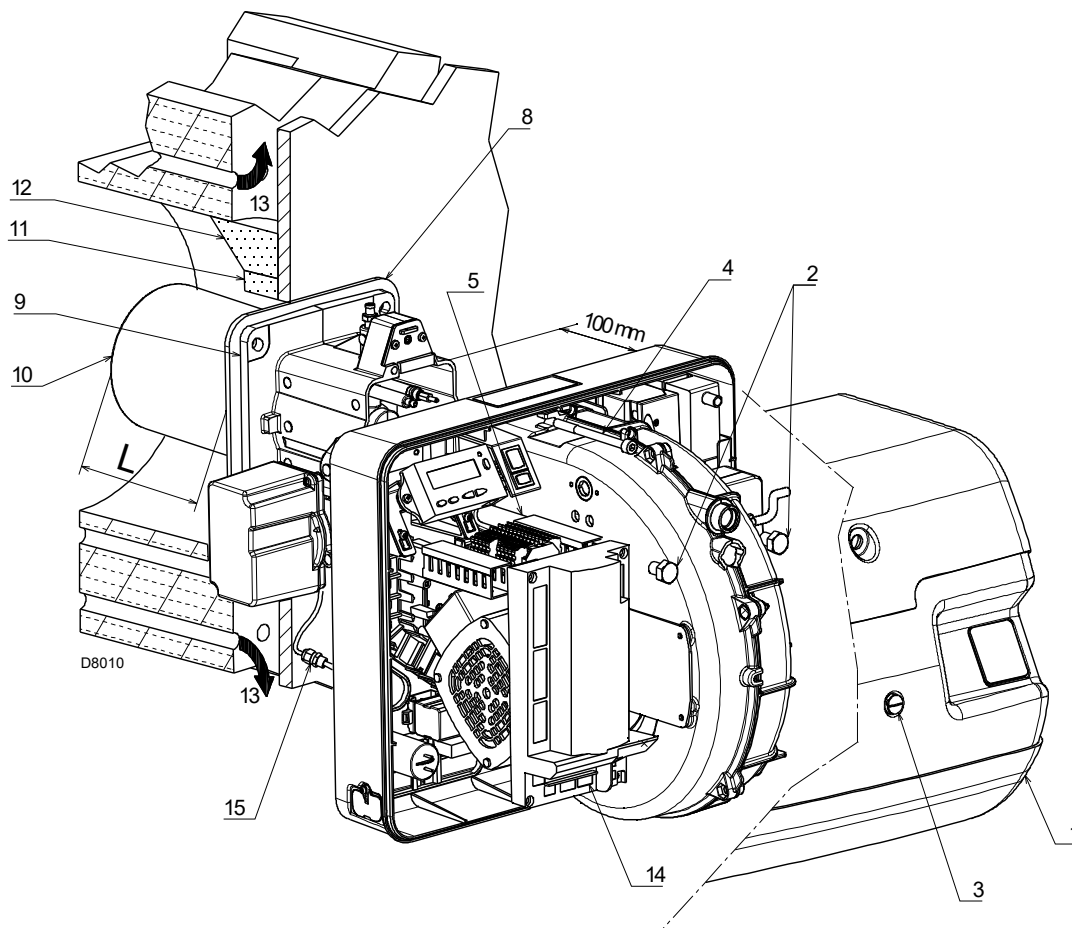

Fig. 17
For boilers with front flue passes 13)(Fig. 17), a protection in refractory material 11) must be inserted between the boiler refractory 12) and the blast tube 10).
Separate the combustion head from the rest of the burner, as in Fig. 17; proceed as follows:
- reassemble the burner on the guides 3) at about 100 mm from the pipe coupling 4) - burner in the position shown in Fig. 17;
- connect the plug of the servomotor 14)(Fig. 17) and tighten the grommet 15);